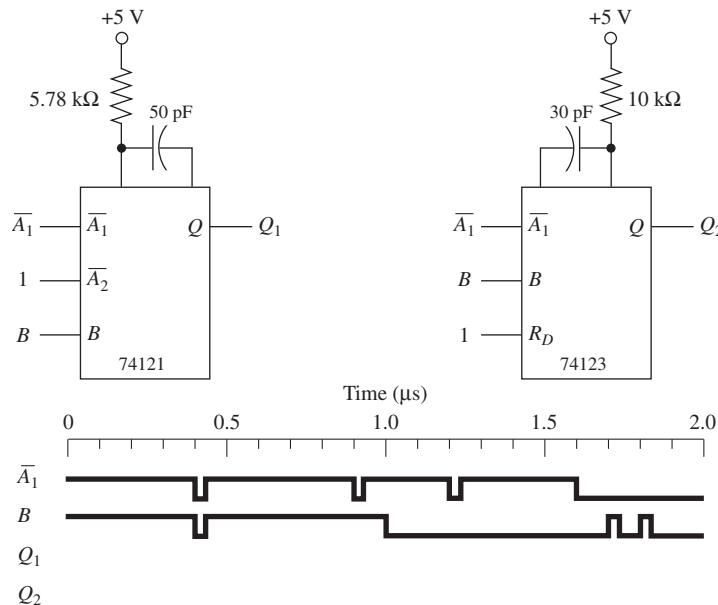

Figure P15
15. Sketch the output waveforms at Q_1 and Q_2 of the multivibrators given in Figure P15 if the \bar{A}_1 and B waveforms are as shown.